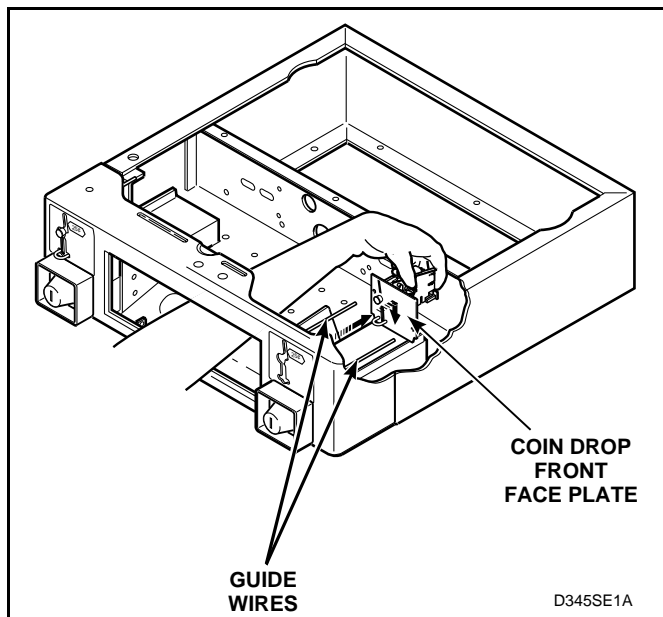

Figure 20
- (8) Lift back end of coin drop and pull straight back until front edge of the drop's front face plate clears the two guide wires. See *Figure 20*.